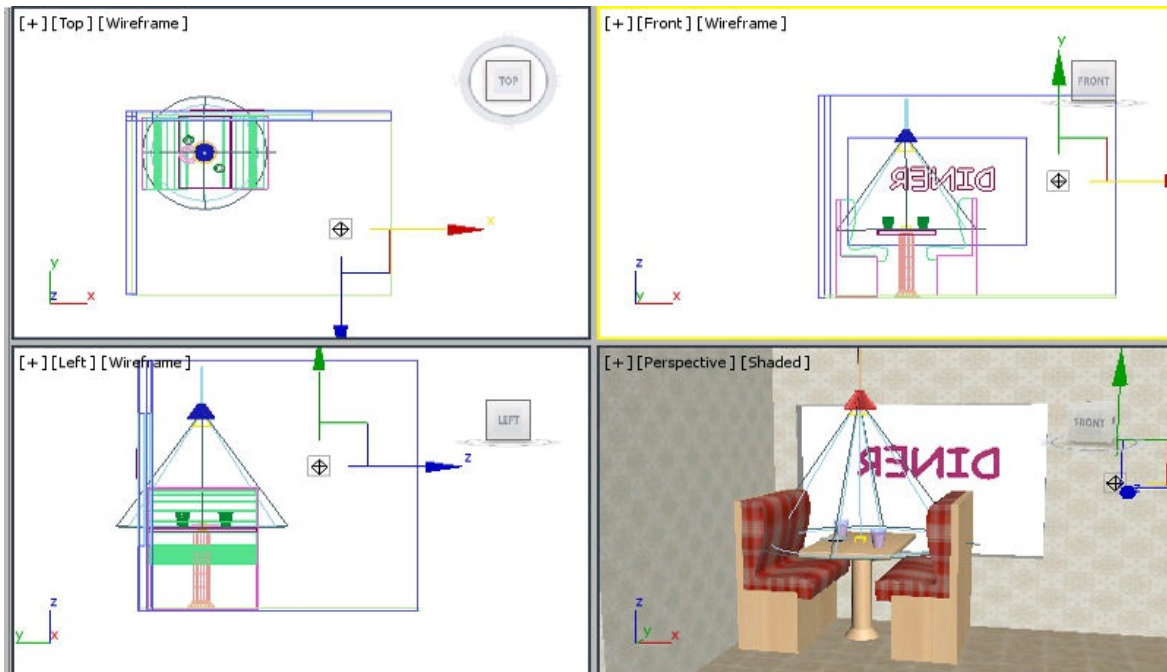

Figure P1-22 Omni01 light created and positioned
11. In the Front viewport, click at a point; *Omni001* light is created. Align it in the viewports, as shown in Figure P1-22.